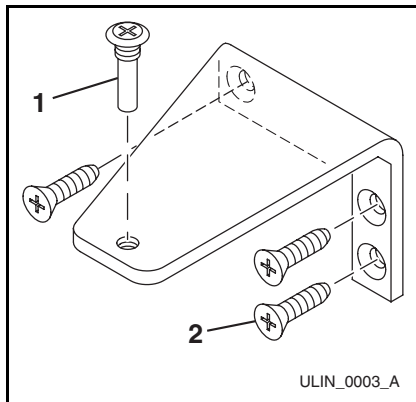

Figure 20
1. Remove top hinge screw pin (**Figure 20, 1**) from door using a Phillips screwdriver. Remove door by tilting forward and lifting off bottom hinge pin.
3. Remove top hinge (three screws) (**Figure 20, 2**) and reinstall hinge screw pin (**Figure 20, 1**).